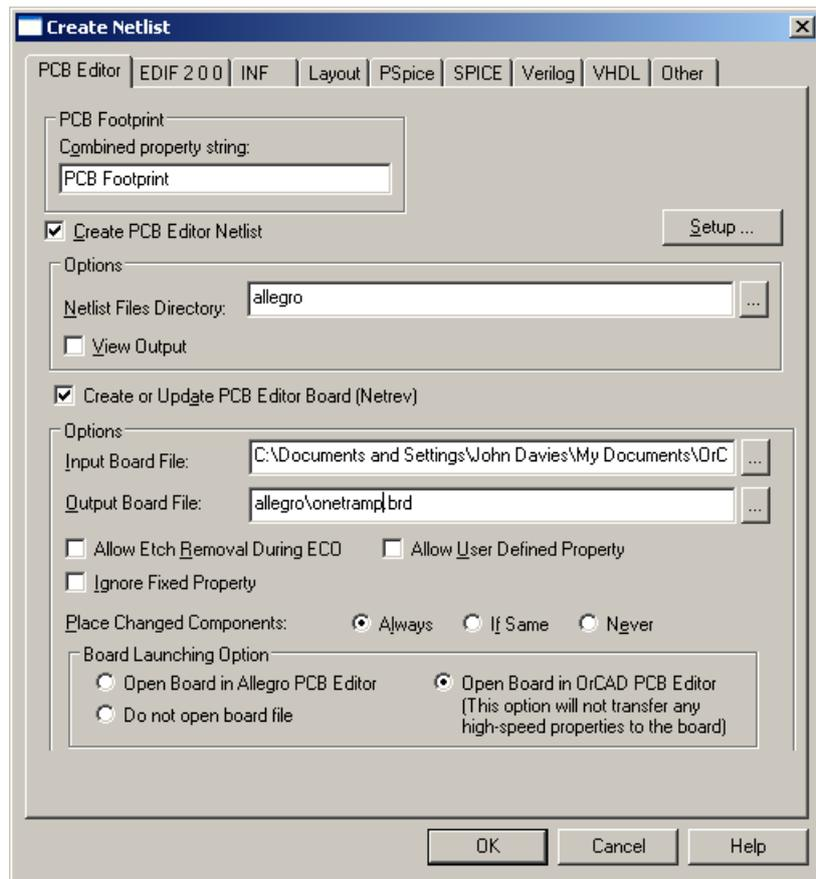

Figure 7. Completed dialogue box for netlisting the design and sending it to PCB Editor. Your file names will be different.
2. Select Tools > Create Netlist... from the menu bar, which brings up a dialogue box as in figure 7. Make sure that the PCB Editor tab is active.
9. The entries in the dialogue box should now resemble figure 7 on the previous page except that the pathnames are different. Click OK to dismiss this dialog box.